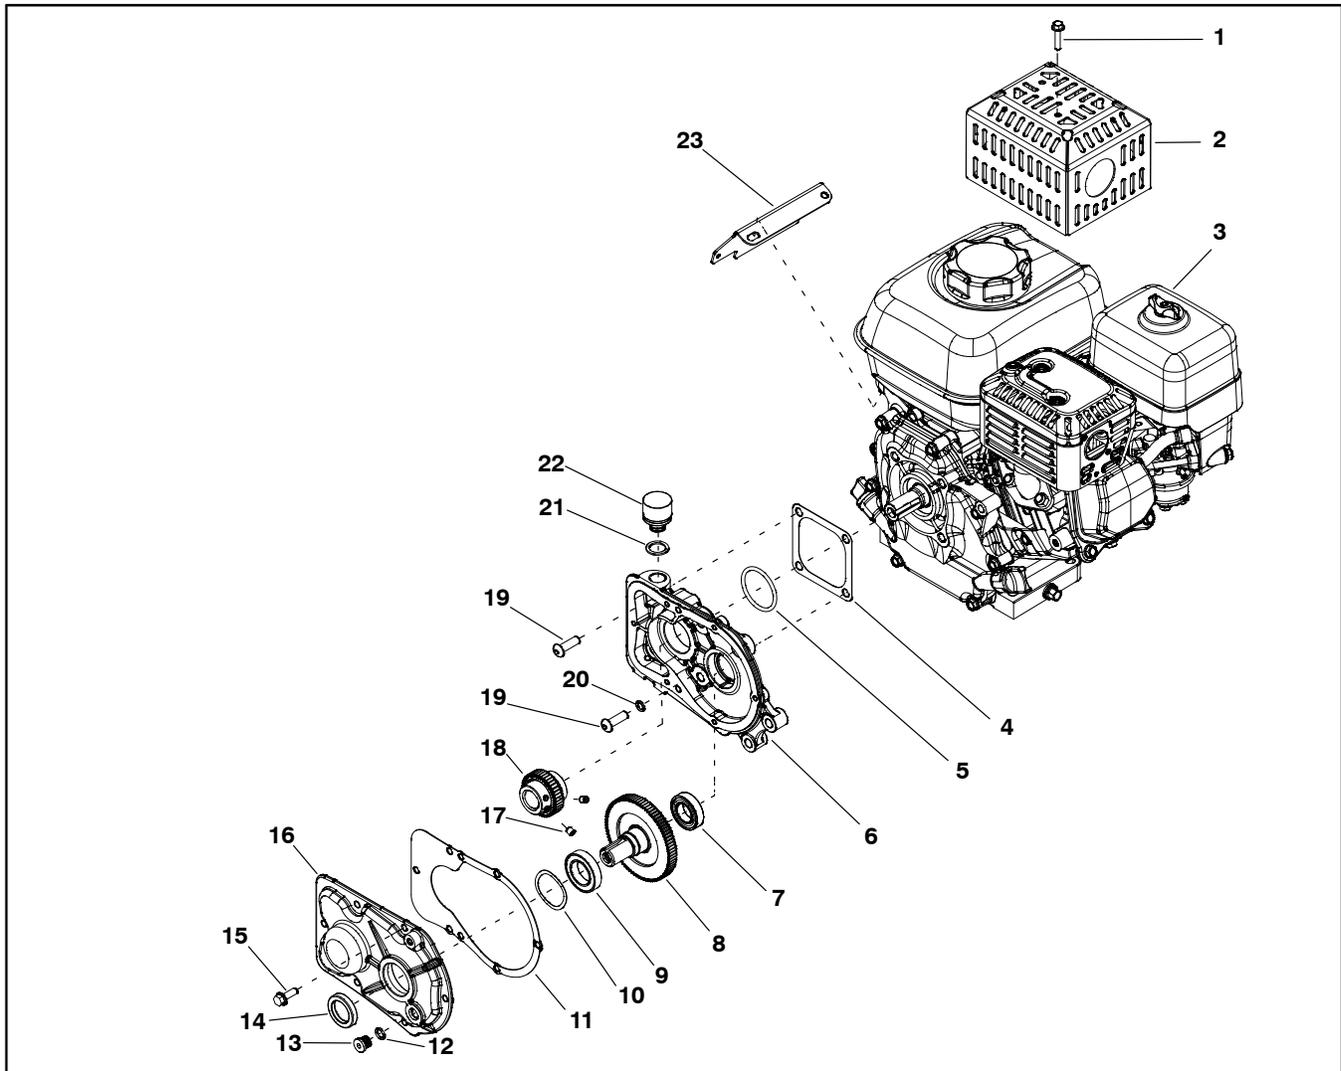

Figure 18
1. Using Fig. 18 as a guide and disassemble the gearbox assembly from the engine.
Assembly (Fig. 18)